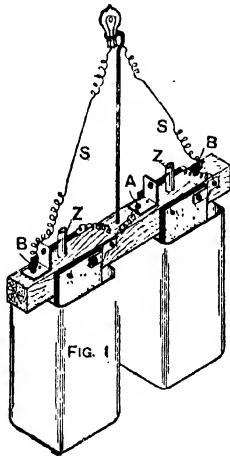
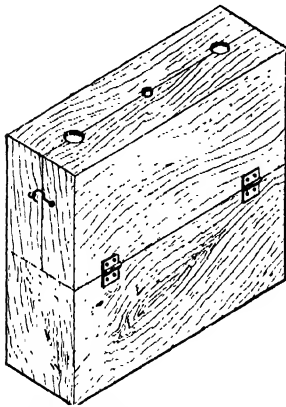

Fig. 274.—Two-cell Bichromate Battery.
Fig. 275.—Box for Two-cell Battery.
**Bichromate Battery.**—Fig. 274 shows a neat little bichromate battery. The cells are two glass jars, each about 6 in. high, 3 in. long, and  $2\frac{1}{2}$  in. broad. A piece of hard wood 1 in. square spans the two cells when they are placed side by side, and holds all the fittings. The  $\frac{1}{2}$ -in. zinc rods zz pass through holes bored in this piece of wood with a centre-bit. A carbon plate on each side of each zinc rod is secured by screws passing through the tops of the carbons. A strip of brass on each carbon, in the form of brackets, forms connections for spirals of No. 22 silk-covered wire, connecting these elements with the zinc at A and the terminal B. Brackets of thicker brass, each carrying a brass set-screw, are mounted on the top and make connection with the zinc rods. The binding screws B B can be connected to a 4-volt lamp by spirals of No. 22 brass wire s s. The lamp is supported in a bent loop of iron wire fixed in the wood support. A neat box, with the upper half hinged as shown in Fig. 275, holds the cells and provides ready access to the fittings and connections at any time.